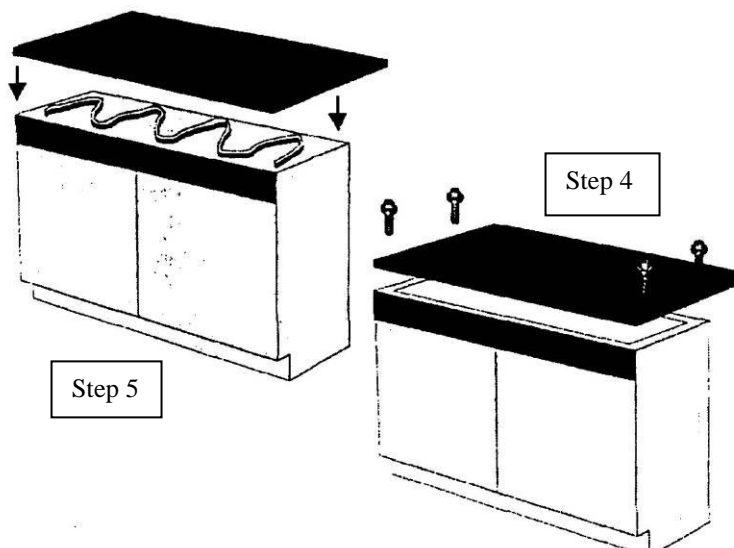

Figure 3-1
1. Level the base cabinets and the hardboard work top. Work top should be placed flush with the back of the fume hood as shown in Figure 3-1.